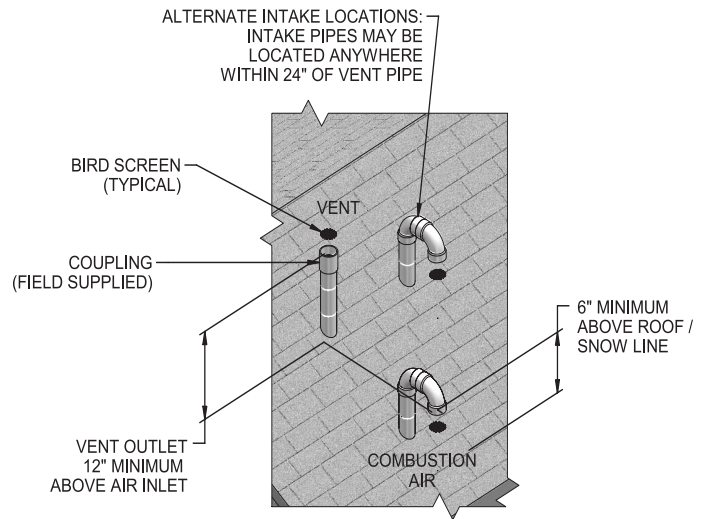
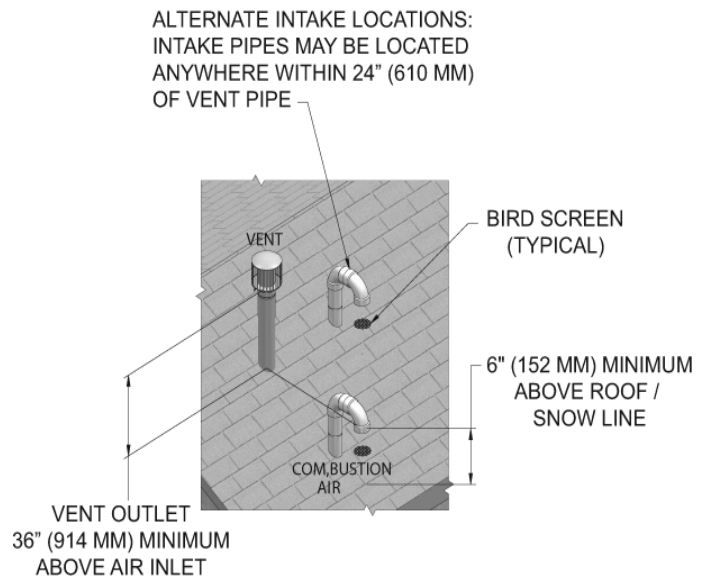

Figure 43. PVC/CPVC Vertical Termination of Air and Vent
Figure 44. Stainless Steel Vertical Termination of Air and Vent
2. Prepare the vent termination and the air termination elbow (Figure 43) by inserting bird screens. Bird screens should be obtained locally.
5. The vent piping must terminate in an up-turned coupling as shown in Figure 43. The top of the coupling must be at least 1 foot above the air intake. When the vent termination uses a rain cap as illustrated in Figure 44 maintain at least 36" (914 mm) above the air inlet. The air inlet pipe and vent pipe can be located in any desired position on the roof, but must always be no further than 2 feet (.6 m) apart and with the vent termination at least 1 foot for PVC and 3 feet for stainless steel, above the air intake.
6. Maintain the required dimensions of the finished termination piping as shown in Figure 43.
3. Space the air and vent holes to provide the minimum spacing shown in Figure 43 on Page 31.